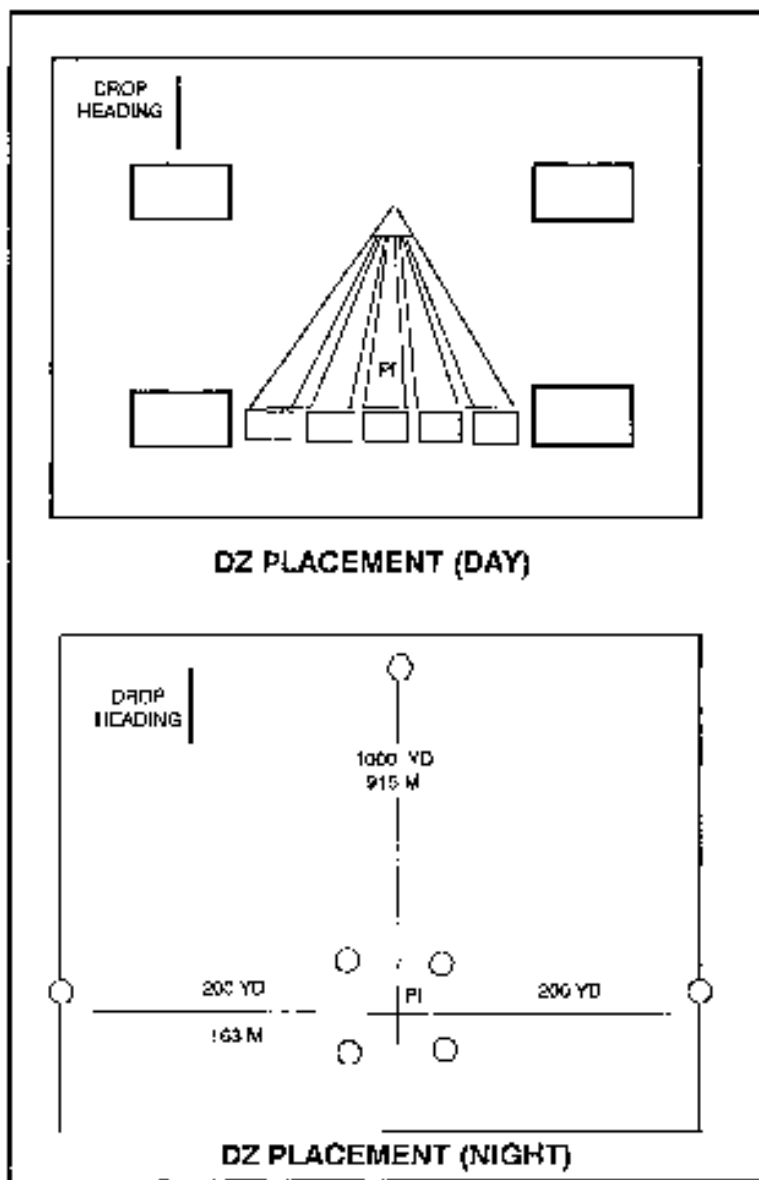

Figure 6-11. Drop zone placement.
b. Night markings will consist of a shape designator (made of lights) placed at the point of impact, one flanker light placed 200 yards/183 meters to the left and right of the shape designator, and a trailing edge light placed 1000 yards/915 meters from the shape designator, or at the trailing edge of the surveyed DZ whichever is closer to the PI (Figure 6-11).